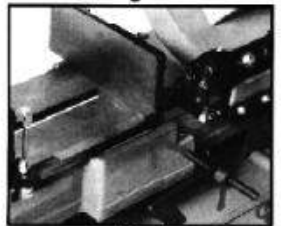

Fig.5
2. Place a machinist's square as pictured in figure 5. Square should lie along entire length of vise and blade without a gap.